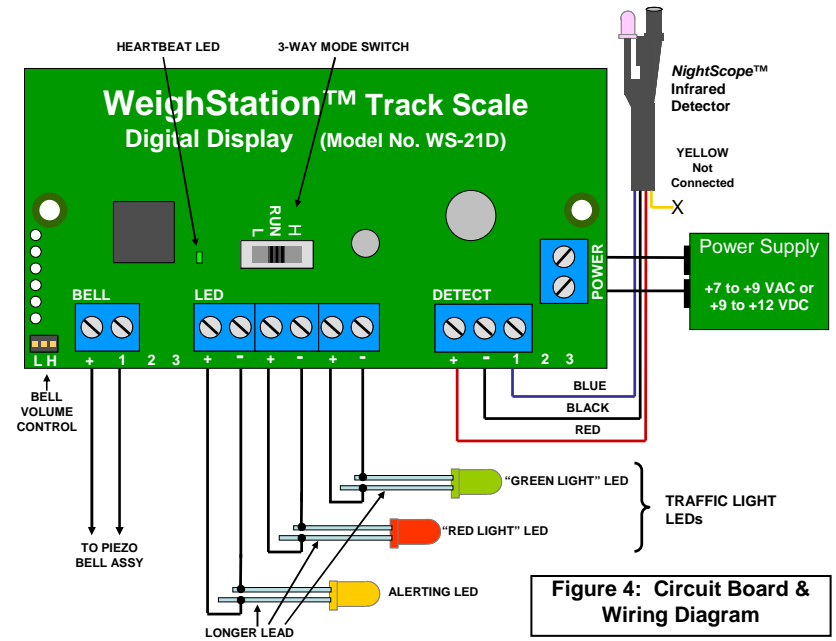

Figure 4: Circuit Board & Wiring Diagram
Figure 4 shows how to wire your **WeighStation™ Track Scale**, along with key features on the circuit board.
1. Connect two wires from your power supply to the Track Scale power terminals as shown in Figure 4. Polarity does not matter. The power supply must be 7 to 9 Volts AC or 9 to 12 Volts DC, with 250 mA capacity. Radio Shack sells an AC adapter (#273-314) that works well.
2. Connect the RED, BLACK and BLUE wires from the **NightScope™ Infrared Train Detector** as shown in Figure 4. The YELLOW wire is not used – trim it and insulate the end.
3. If you are using the Piezoelectric Bell Assembly, connect it as shown in Figure 4. Polarity does not matter.
4. You can directly wire an Alerting LED as in Figure 4. Install the LED on or near your Scale House. Or you can install the red and green “traffic light” LEDs as shown. (LEDs are not included.) LEDs are polarity sensitive – connect the long and short leads as shown. The Track Scale circuit board sources 20 mA at 2 Volts for each LED.
The Track Scale Circuit Board has a green “Heartbeat LED” (see Figure 4) that blinks every second while the Track Scale is waiting for a car. It is steadily on while the Track Scale is generating a car weight, or while setting the Display Range.
Use the 3-Way Mode Switch in the center of the circuit board (see Figure 4) to set the three Display Ranges as follows:
The Bell sound volume is controlled by the black jumper in the lower left corner of the circuit board (see Figure 4). Slip the jumper over the center and “L” terminals for a lower volume, or over the center and “H” terminals for a higher volume. To turn off the Bell, remove the jumper.